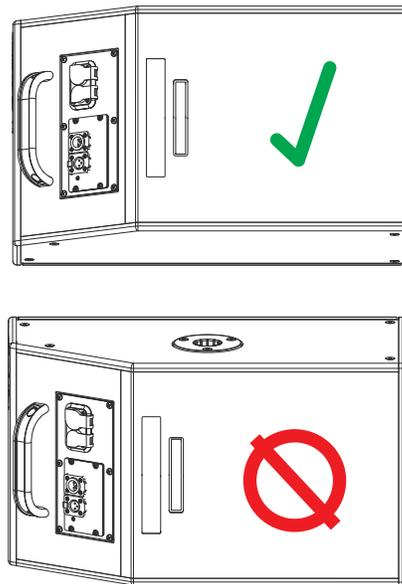
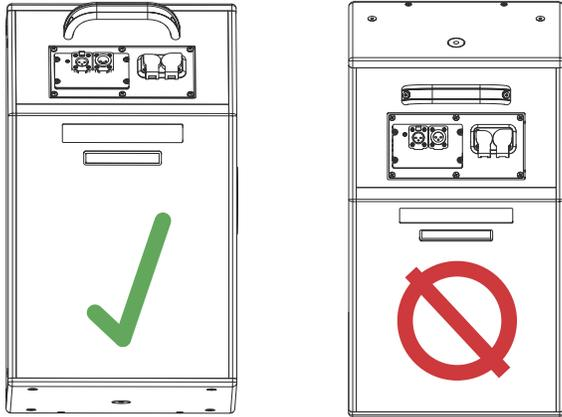

Figure 3: Downtilt Permissible (top); Uptilt **NOT** Permissible (bottom)
Figure 4: Downtilt Permissible (left); Uptilt **NOT** Permissible (right)
**CAUTION:** The weather-protected USW-112P loudspeaker must be mounted with a 0° tilt, or preferably with a slight downtilt with the cables exiting from the bottom. This angle shields the driver from the elements and does not allow water to accumulate in the cabinet. Do not tilt the cabinet up, as the drivers and cabinet will accumulate water. (Figure 3 and Figure 4).